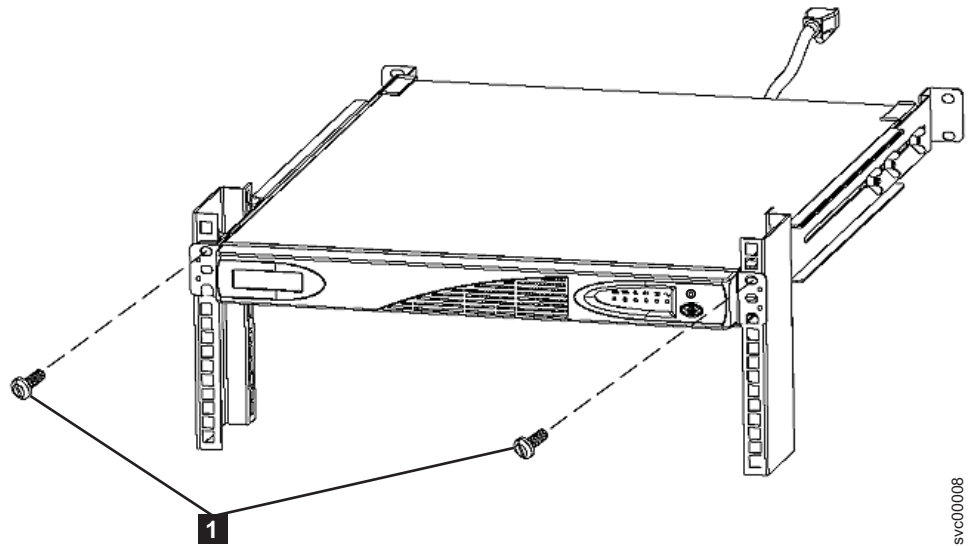

Figure 204. Mounting screws for the 2145-1U uninterruptible power supply
9. At the front of the 2145 UPS-1U, unscrew the two mounting screws **1**, as shown in Figure 204 on page 483.